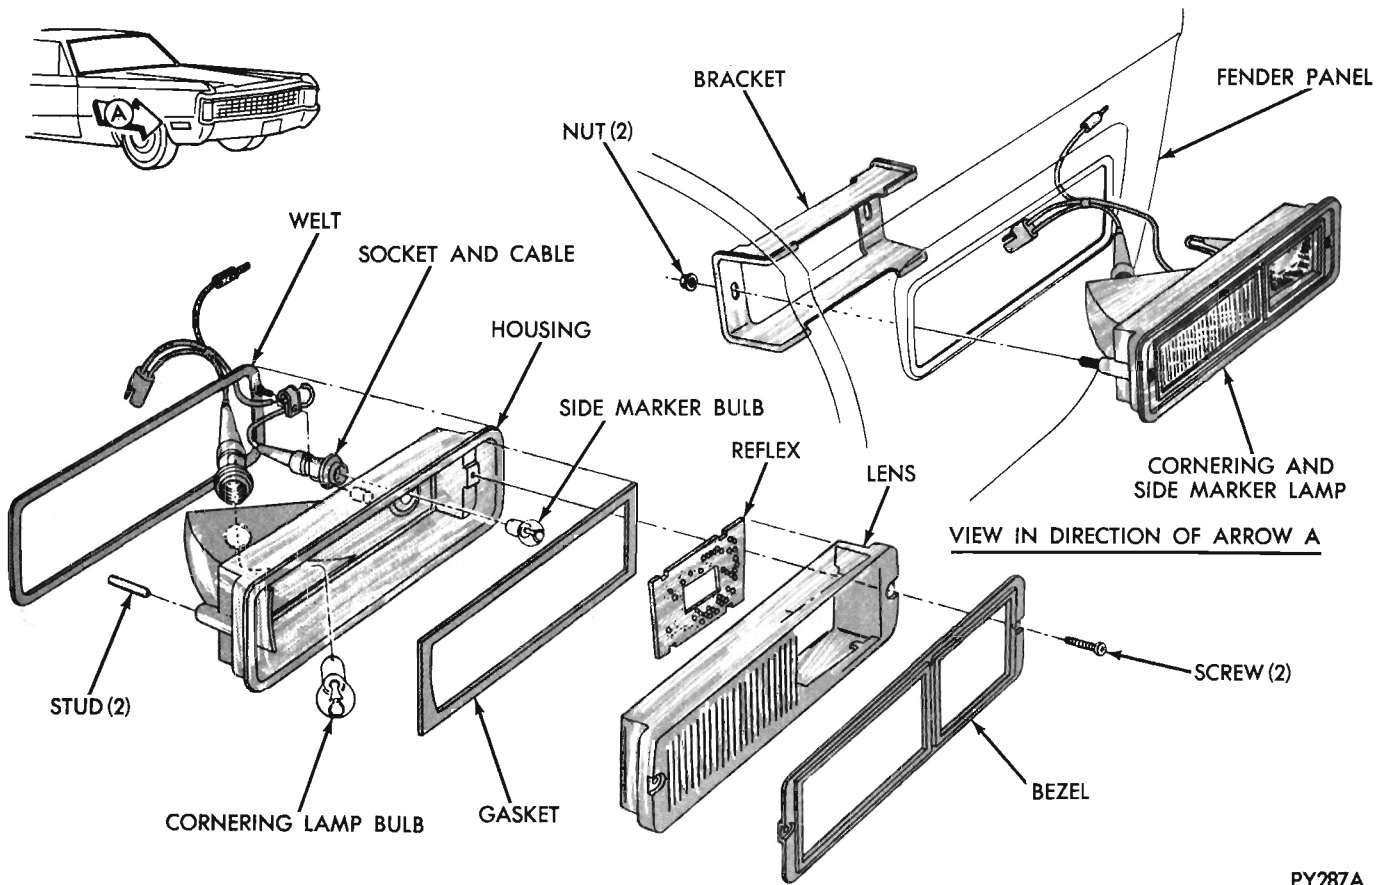

Fig. 18 - Front Fender Cornering and Side Marker Lamps - Imperial
- (1) Position lamp assembly and bracket and install two capnuts.
- (2) Connect lamp lead to harness.
**Front Fender Cornering and Side Marker Lamps Imperial (Fig. 18).**
- (1) Remove two nut assemblies and remove lamp bracket.
- (2) Disconnect lamp lead from harness and pull lamp assembly away from fender.